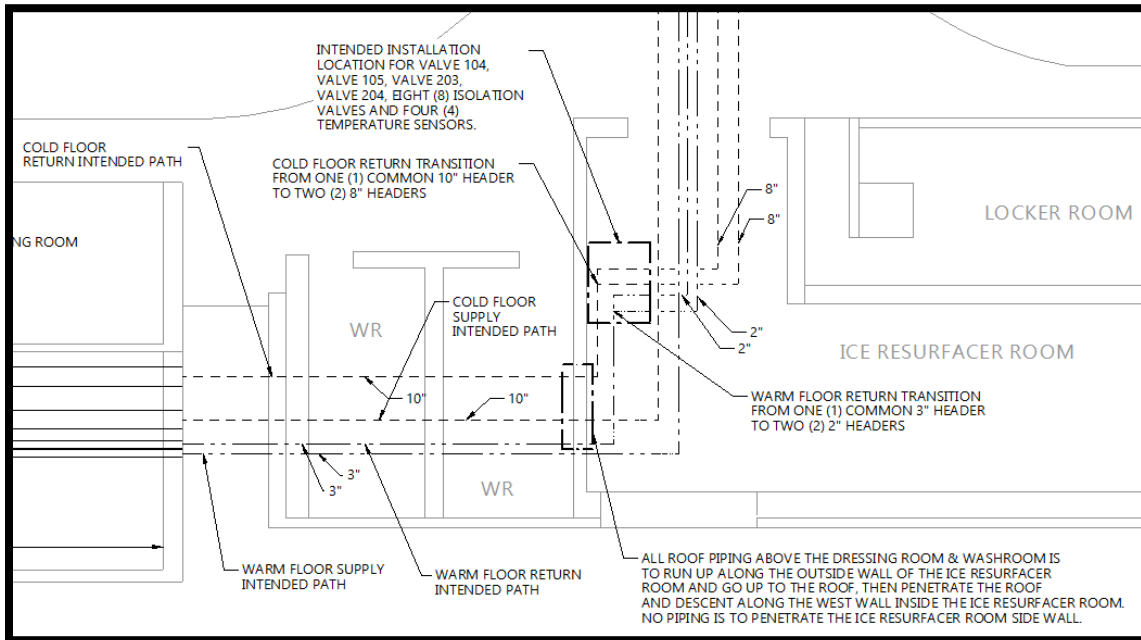

Figure 4: Ice Resurfacer Room Excerpt
- .2 The piping running above the dressing room is to run up to the ice resurfacer room roof, then descent along the west wall inside the ice resurfacer room. No piping is to penetrate the ice resurfacer room side wall. See Figure 4 below.
- .1 Sensor locations are to be integrated to the automation system in conformity with Figure 4 above as well as the specifications in Part 3 – Automation